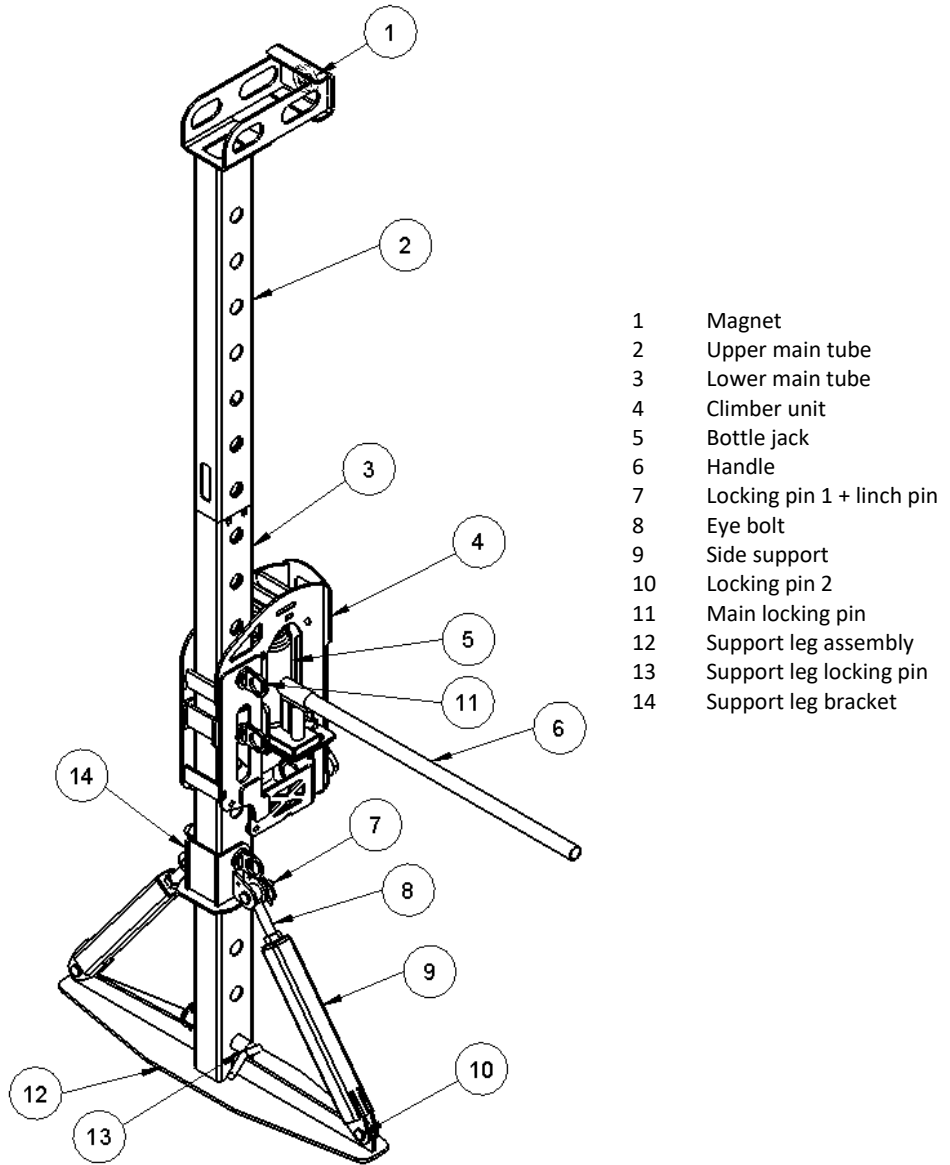

Figure 1. Container lifting unit parts
7. Lift the climber to a place where you can insert a pin into the climber's bottle jack frame hole locking (**Figure 1. Container lifting unit parts, part 11**)